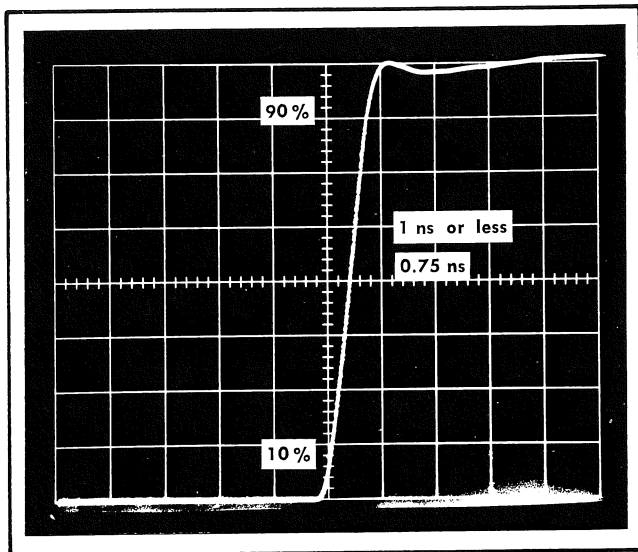

Fig. 5-11. Risetime measurement.
c. Set the sampling unit Units/Div switch to 50 and the sampling sweep unit for a 1 ns/div sweep rate (Range switch to 100 ns and Time Magnifier switch to  $\times 10$ ). Center the rising portion of the pulse on the graticule. Use the Variable Units/Div control to increase the amplitude to 8 divisions (see Fig. 5-11) or other convenient amplitude to measure the risetime from the 10% to 90% amplitude points.
c. Set the sampling sweep unit sweep rate to 1 ns/div (Range switch to 100 ns and the Time Magnifier switch to  $\times 10$ ). Set the sampling unit Units/Div switch to 10 and center the rising portion of the pulse on the graticule as in step 11. Use the Variable Units/Div control to increase the amplitude to 8 divisions, see Fig. 5-11. Measure the risetime from the 10% to 90% amplitude points.